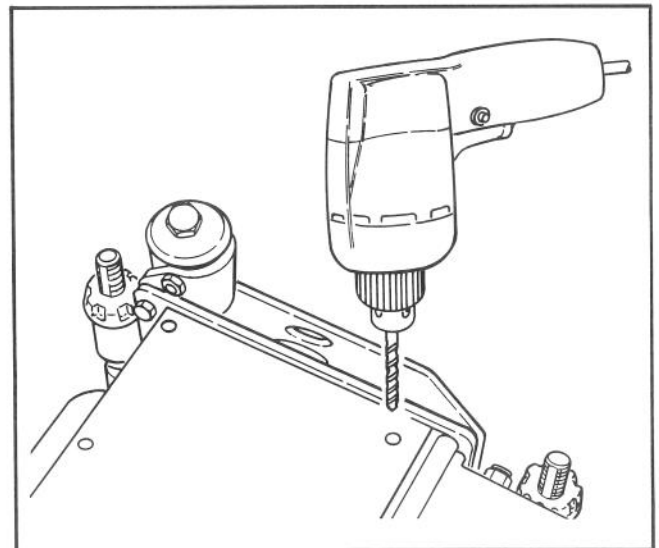

Figure 4
- D. Mount one weight to each cutting unit guard (Fig. 4) on the #1, #2, & #3 cutting units. Guards are located at the opposite end of each cutting unit drive housing. Use 1/2" carriage bolts provided with weights (Fig. 4).